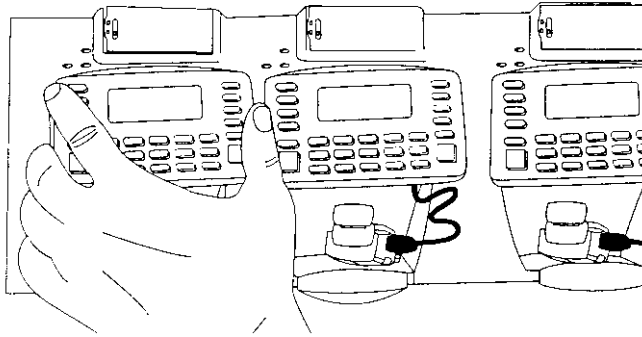

Figure 3-1. Placing the WWC 1000 in the Cradle
2. Place the WWC 1000 in the cradle and power it off (refer to Figure 3-1).